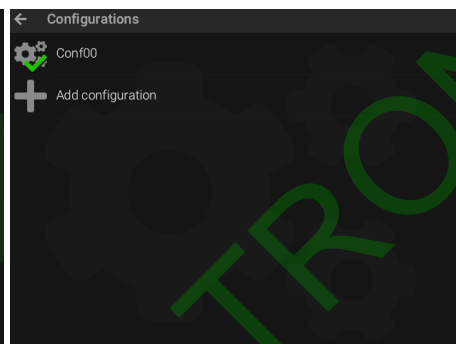

Fig. 37
- Press the configuration to be set (Fig. 37).